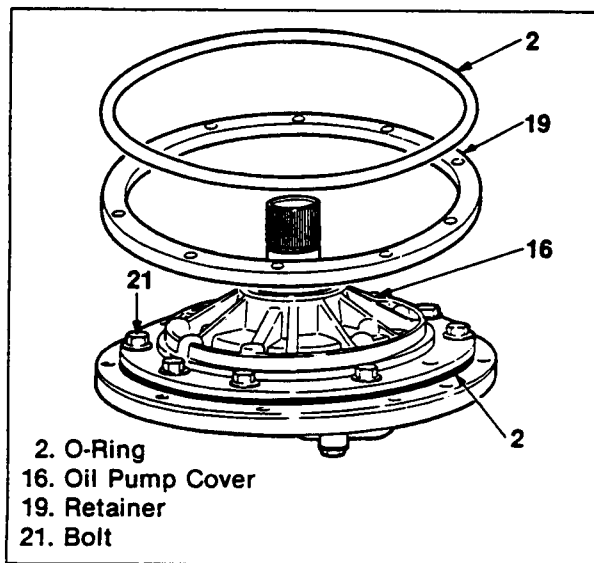

Figure 58. Oil Pump Cover Removal (1)
Oil Pump Cover (Figures 58, 59 and 60)
2. Remove bolts (8 pcs) from the housing (figure 58).